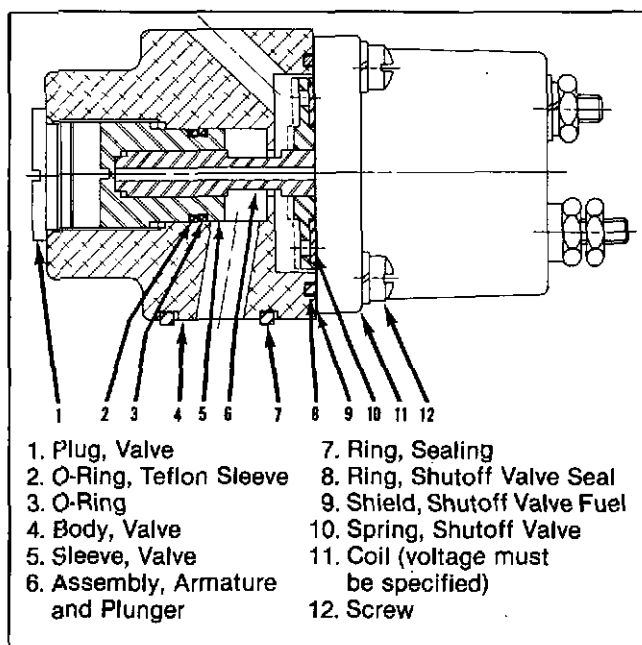

Fig. 6-9, (F5276). Dual valve assembly cross-section.
2. Install the sleeve O-ring and the backup teflon ring on the sleeve, Fig. 6-9.